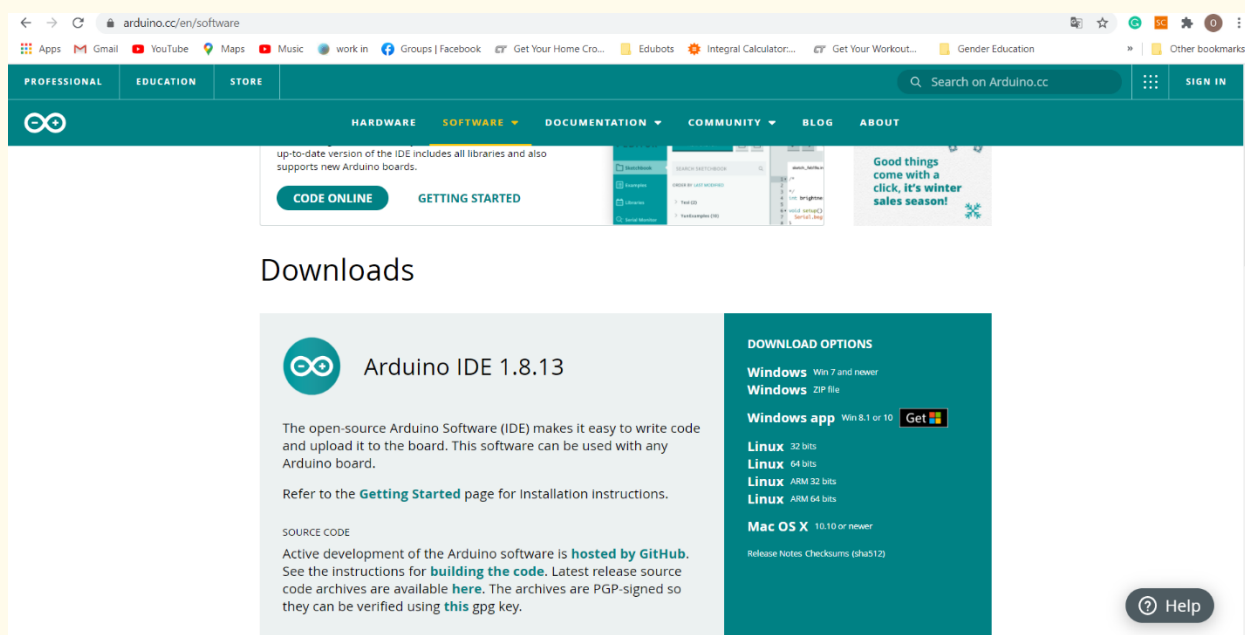

Figure 8 How to download Arduino IDE
3. Click on the download option that suits to your operating system (see figure 8). If you have doubts, click on 'Getting Started' to read more information about installation of the software for your computer.
Parts of the IDE (from left to right, top to bottom) as illustrated on the right side of Figure 8, are given below: